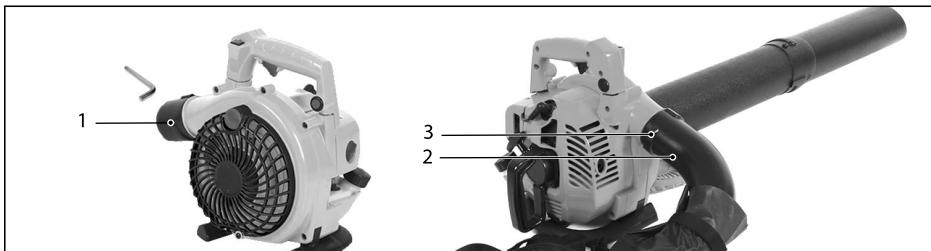

Fig. 3
1. Using the supplied allen key, undo the bolts on the power head (1) and keep safe.
2. Place the end of the collector bag tube in to the power head housing (2), then push towards the machine as far as it can go.
3. Re-fit the power head bolts. (3).
4. To remove, reverse this process (Fig.3).